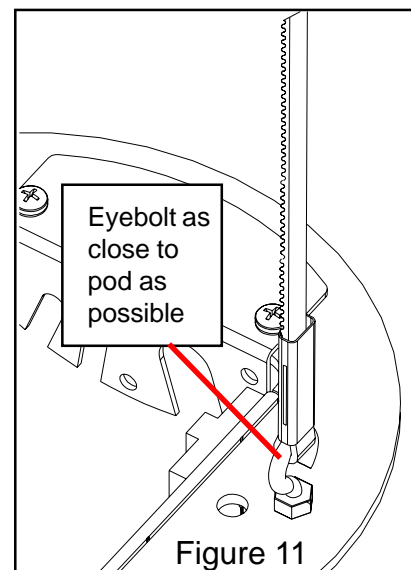

Figure 11
3. Attach loose end of belt to left pod car in the *outer* hole with nut and jam nut. See Figure 11. Make sure eye bolt is attached as close as possible to the pod car.
6. Route the motor drive cable through the rear of the pod car and into one of the rear tower ribs and secure with the plastic cover. Removal of upper and lower cable strain reliefs are necessary to feed cable through rear of pod. Secure the cable to the tower by snapping the plastic channel cover into one of the grooves over the cable. Replace the upper strain relief as shown in Figure 11. Leave the lower strain relief off for camera cable attachment later.